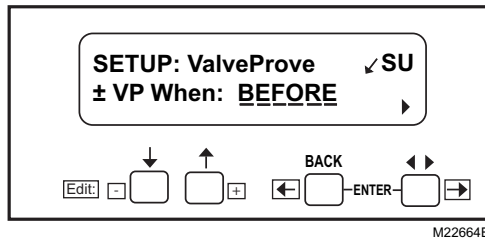

Fig. 24. SETUP: Valve Prove screen.
12. "Getting Data" will be momentarily displayed, followed by the screen shown in Fig. 24.